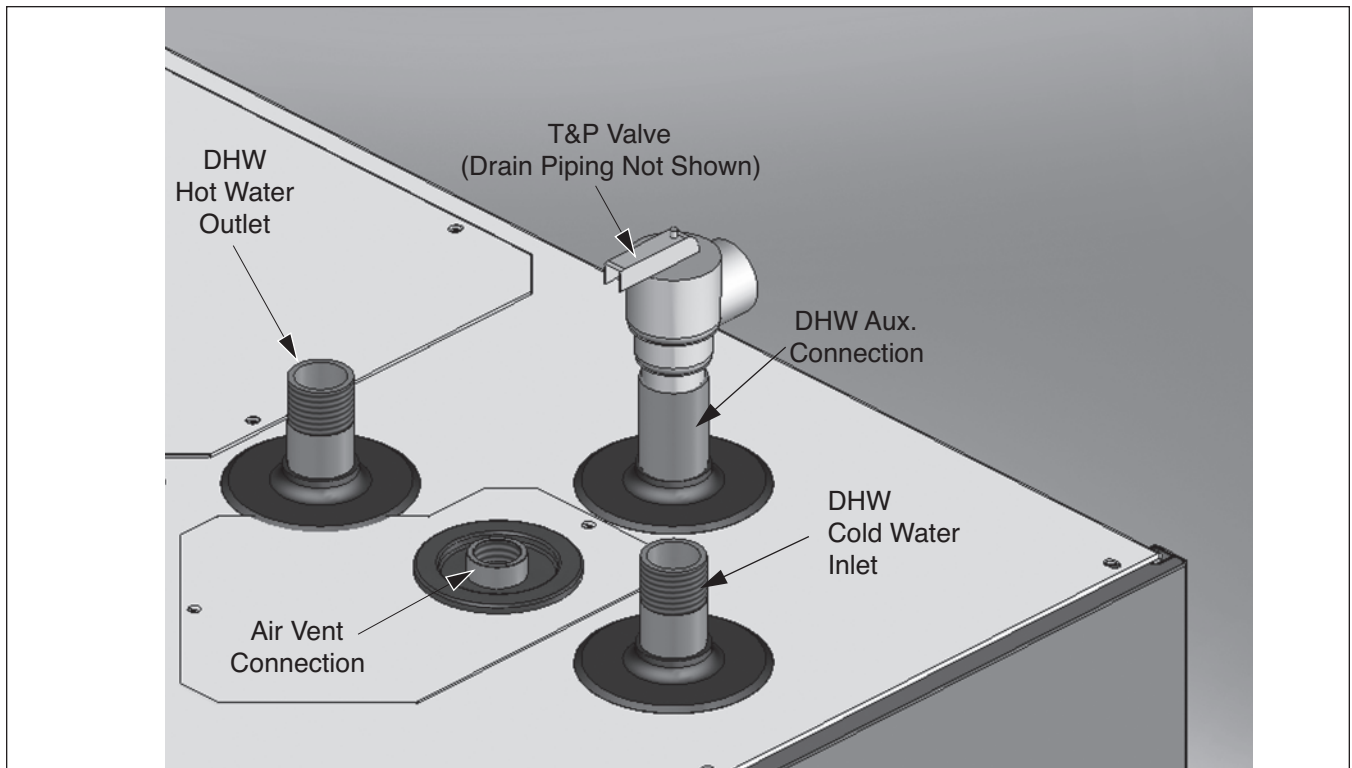

Fig. 2: Standard Installation of the T&P Relief Valve
- Install T&P relief valve in the Auxiliary connection located behind the air vent on the top of the water heater as shown Fig. 2 page 8.
1. Install automatic air vent provided using suitable pipe dope or tape in the air vent connection as shown in Fig. 2 and 3 page 8.